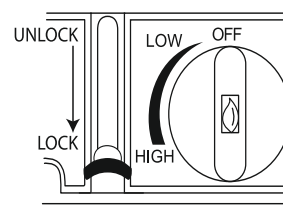

Fig. 3
3. Push the Cartridge Lock down to 'LOCK' in one firm motion (Fig. 3).